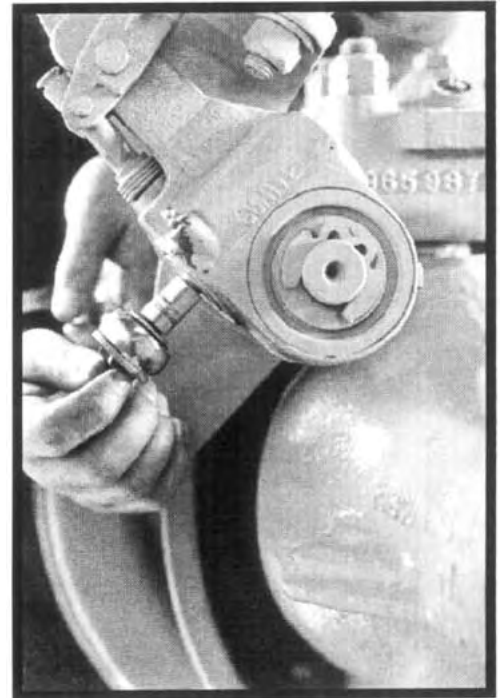

Figure 7
1. Using a 7/16 socket, rotate the hex extension on the front of the slack adjuster clockwise until the shoes first contact the drum. See Figure 7. Rotate the hex extension 1/2 turn counterclockwise to back off the shoes and provide initial running clearance. A ratcheting noise while backing off is normal.